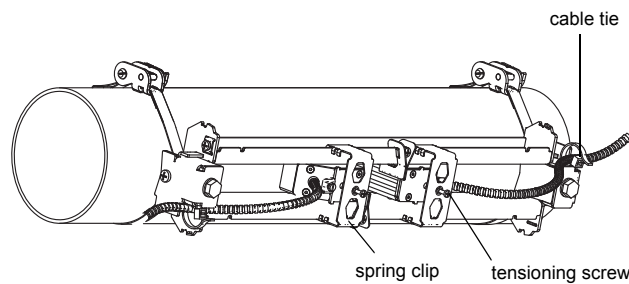

Fig. 7.18: Transducers in the rail
- Slide the spring clips on the transducers (see Fig. 7.18).
- Use a cable tie to fix the transducer cables in order to protect them from mechanical strain (see Fig. 7.18).